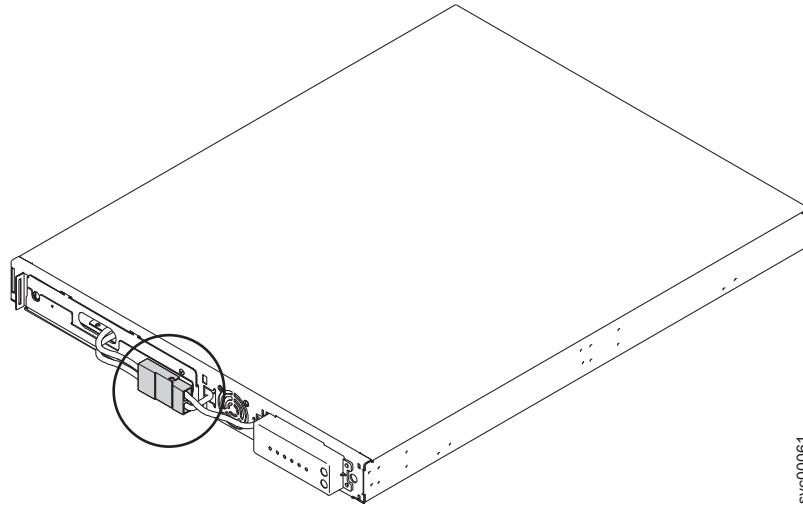

Figure 33. The 2145 UPS-1U internal-battery connector
5. Connect the internal battery connector (shown in Figure 33 on page 41). Each end of the keyed connector has two wires: one red (+) and one black (-). Align the connector so that the two red wires are joined together and the two black wires are joined together.